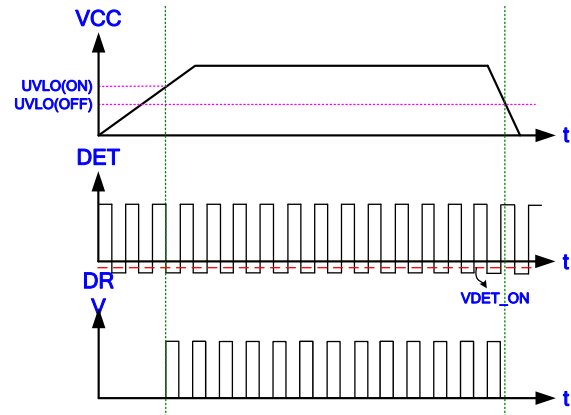

Fig. 15
An UVLO comparator is implemented in it to detect the voltage on the VCC pin. It will assure the supply voltage enough to turn on the LD8526 controllers and further to drive the synchronous rectifier. As shown in Fig. 15, the UVLO(ON) and UVLO(OFF) are 3V and 2.8V respectively.